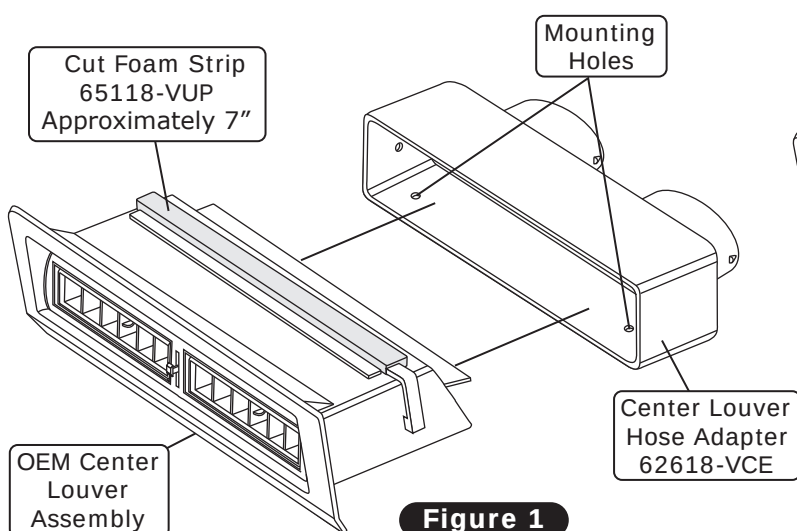

Figure 1
1. Install the foam strip onto the center louver assembly as shown in Figure 1, below.
2. Install center louver duct hose adapter onto center louver assembly (See Figure 1, below).